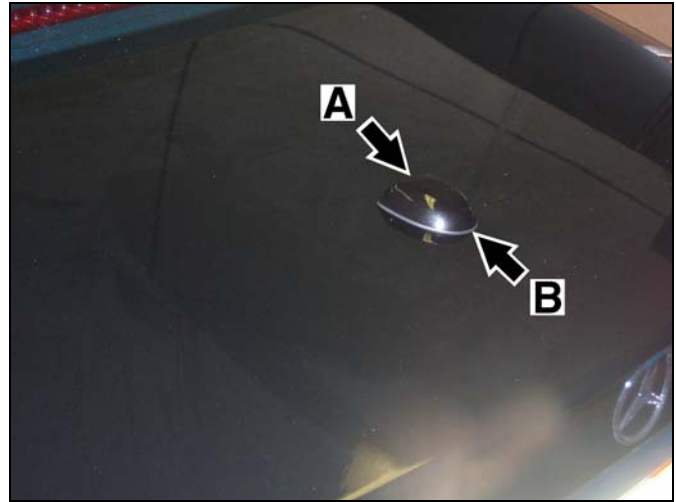

Figure 11
6. Align the SDARS antenna straight with the vertical end facing the vehicle front (A, Figure 11) and the beveled end facing the vehicle rear (B, Figure 11).